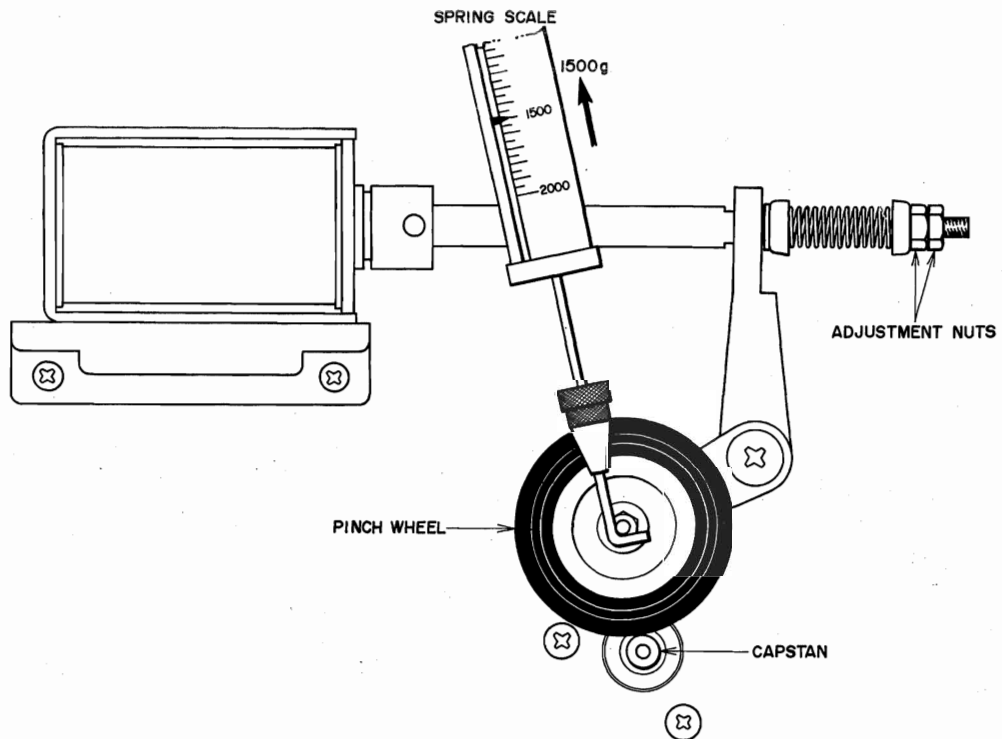

Fig. 13
5. PINCH WHEEL PRESSURE ADJUSTMENT (Refer to Fig. 13)
As shown in Fig. 13, pull out and return pinch wheel with a spring scale, reading the spring scale indication when the pinch wheel touches the capstan. Adjust pinch wheel pressure with adjustment nut to obtain a 1.5 kg. spring scale indication at pinch wheel and capstan contact.